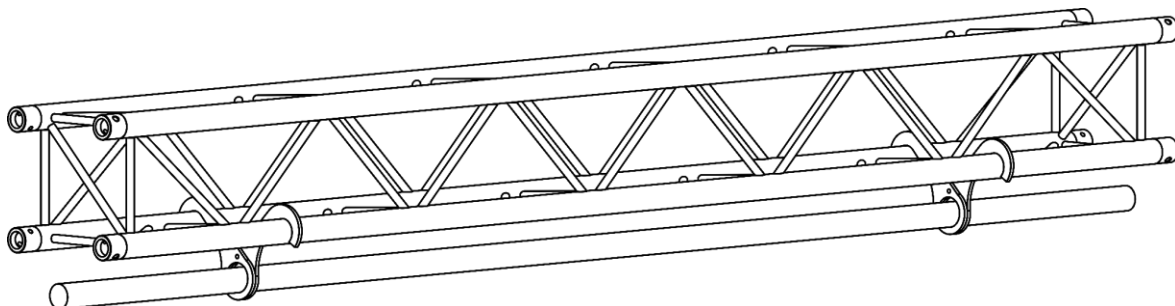

Fig. 05
02) Insert a tube through the hole on the device (tube diameter: Ø 48–51 mm). See Fig. 05.